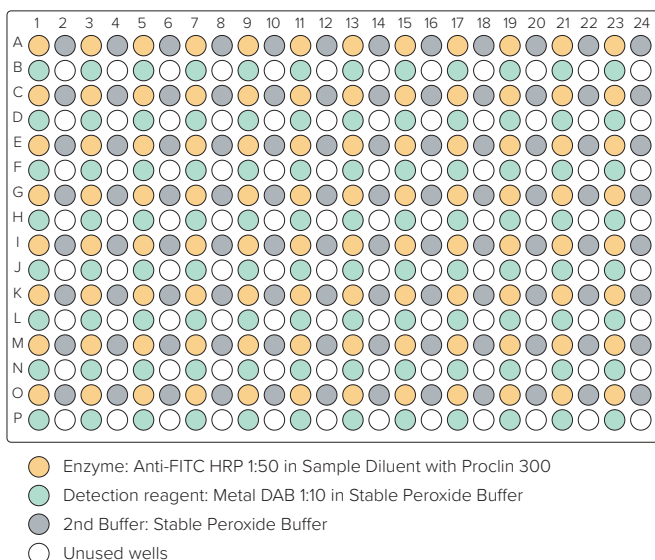

Figure 3: Detection Plate layout for 96 biosensor mode for Octet HTX system.
- 4 Prepare the Detection Plate (example plate layout shown in Figure 3):
- 5 Define the Detection Plate layout to correspond to the layout in Figure 3.